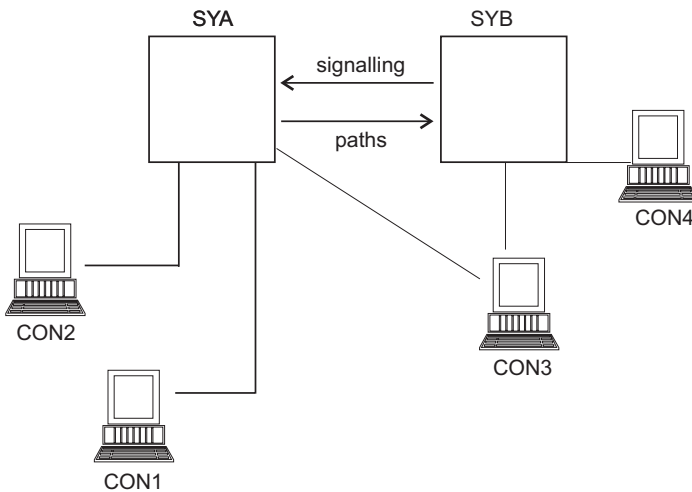
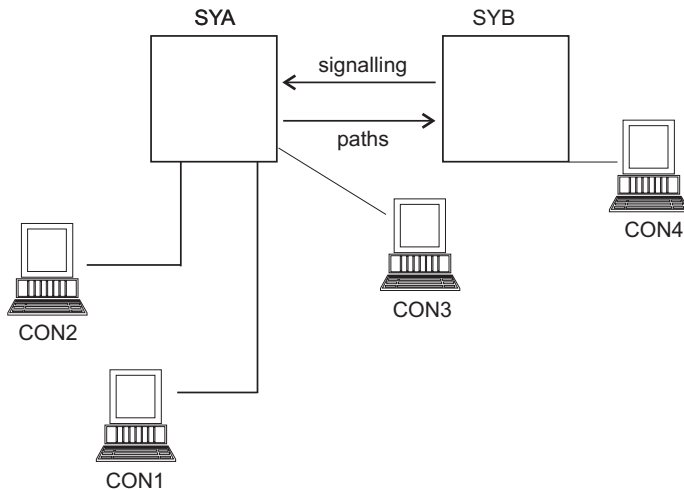

Figure 3. Console Configuration in a Sysplex with Two Systems and Four MCS Consoles
Figure 4. Console Configuration in a Sysplex with Two Systems and Four MCS Consoles
In Figure 3, systems SYA and SYB share the same CONSOLxx member. SYA has three physically attached consoles (CON1, CON2, and CON3); SYB has two physically attached consoles (CON3 and CON4).
- A console can be active on only one system at a time. In Figure 3, CON3 is physically attached to both SYA and SYB. Without specifying SYSTEM(SYB) for
You can define separate CONSOLxx members for each system in the sysplex. Like Figure 3 on page 30, Figure 4 on page 32, shows SYA with three physically attached consoles (CON1, CON2, and CON3) and SYB with one physically attached console (CON4). Console statements are defined in two CONSOLxx members, one for each system in the sysplex.